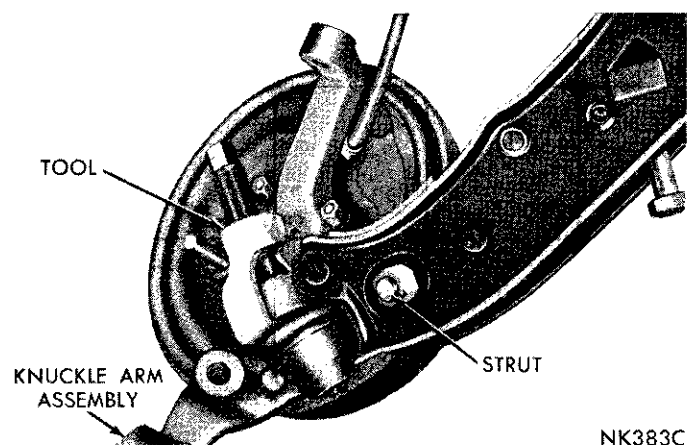
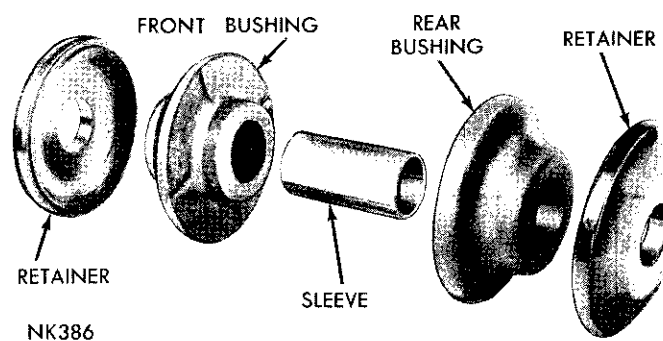

Fig. 14—Removing Lower Ball Joint Stud
Fig. 15—Strut Crossmember Bushing (Chrysler)
(2) Remove cotter pin and nut. Remove tie rod end from steering knuckle arm using Tool C-3964 or Tool C-3742. **Use care not to damage seal.**
(3) Remove sway bar to strut attaching straps.
(4) Remove steering knuckle arm to brake support bolts and remove steering knuckle arm. Move brake support assembly out of the way. **Do not allow brake support to hang by brake hose.**
(5) Remove ball joint stud from lower control arm using Tool C-3964 (Fig. 14). The bottom portion of tool must be positioned between seal and control arm to avoid seal damage.
(6) Remove strut spring pin, front nut and bushing retainer.
(7) Remove nut and washer from lower control arm pivot shaft.
(8) Tap end of lower control arm shaft with a "soft end" hammer, to aid in removal of shaft from crossmember, and remove lower control arm, shaft and strut as an assembly.
(9) Remove strut bushings (Fig. 15) from crossmember.
(10) Remove strut bushing inner retainer from strut.
(1) Remove lower control arm, shaft and strut as an assembly.
(2) Remove nut holding strut to lower control arm and remove strut from control arm.
(3) Inspect strut bushings (Fig. 15). If bushings are worn or deteriorated, install new bushings.